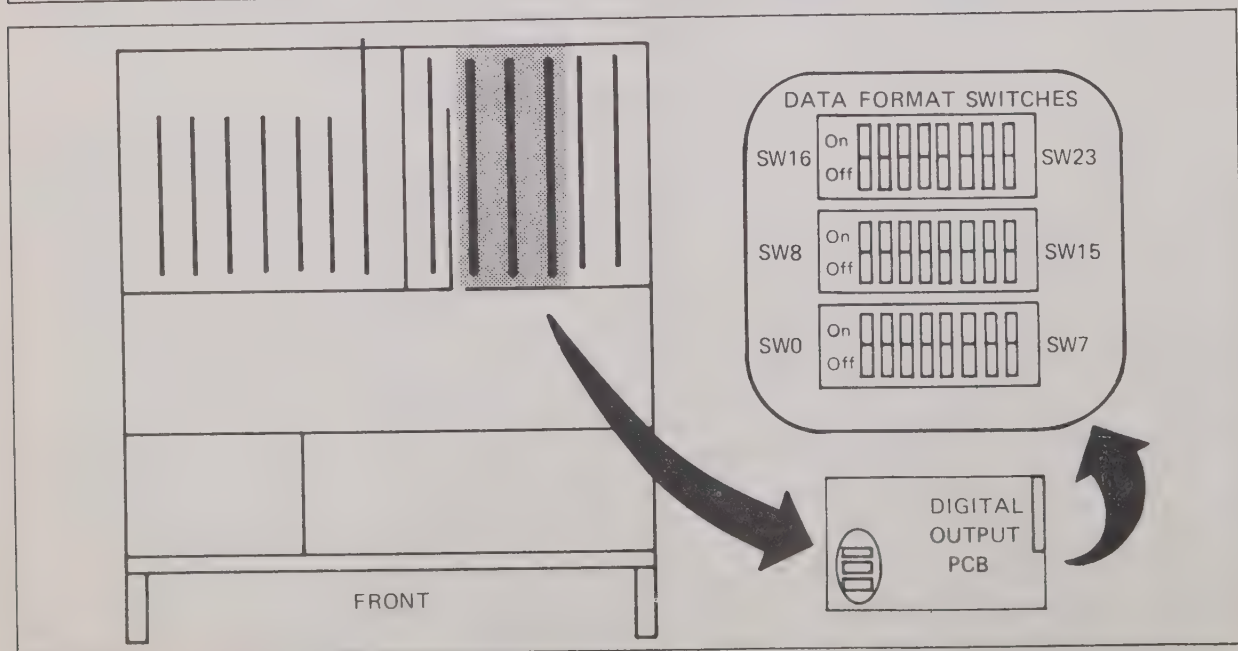

Figure 614-1. Digital Output PCB, Installation and Switch Locations
614-12. Up to three Digital Output PCB's can be mounted in the data logger's I/O slots, as shown in Figure 614-1. Install each —14 Series pcb as follows:
- c. Locate the Data Format switches on each —14 Series Digital Output PCB, as shown in Figure 614-1.